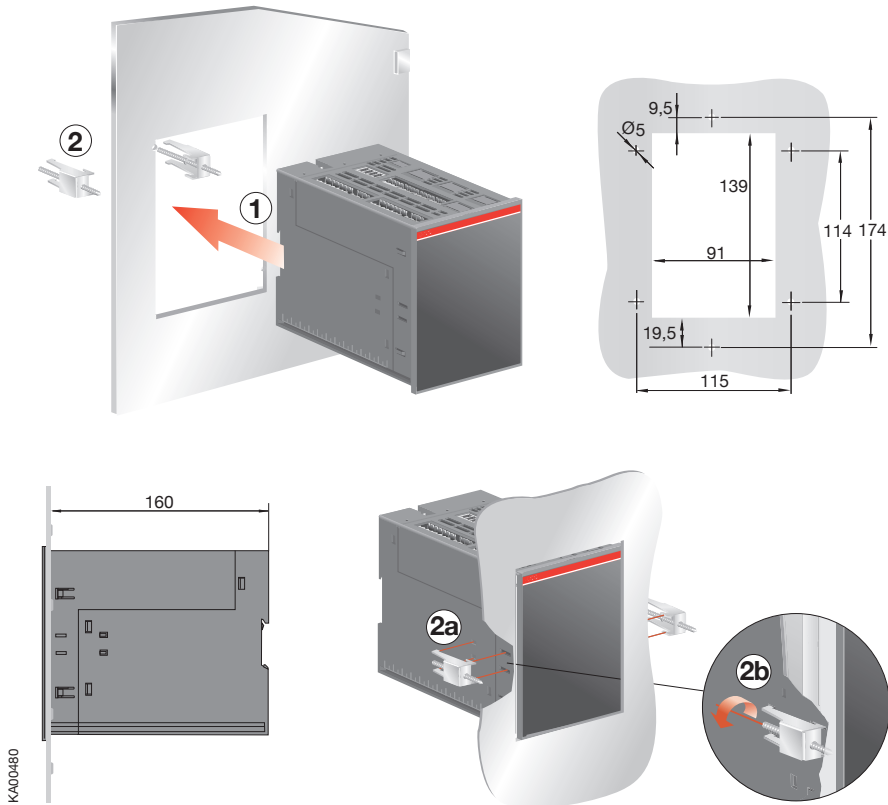

Figure 5.3 Automatic transfer switch ATS021, door mounting
The automatic transfer switch ATS021 can be mounted on the door with the fastener, see Figure 5.3 / ① and ②. Door drilling when mounted on the door according to Figure 5.3.